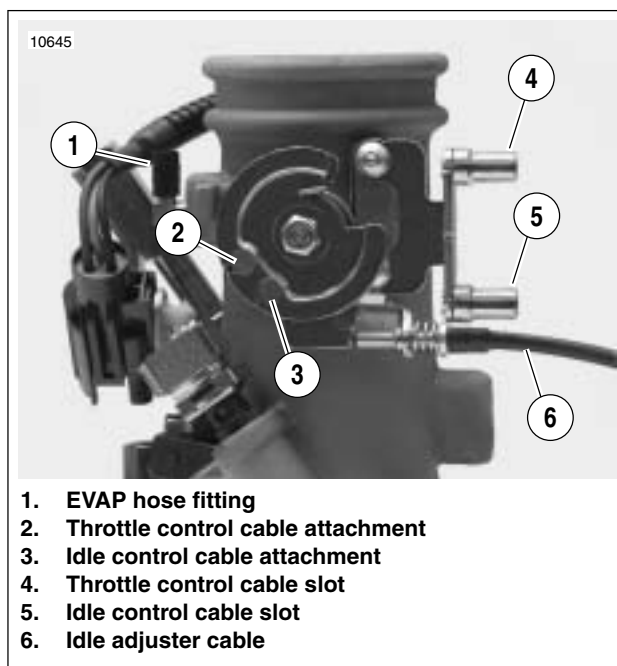

Figure 4-108. Throttle Cable Bracket (Typical)
3. See Figure 4-108. On California models, pull EVAP hose from fitting (1).